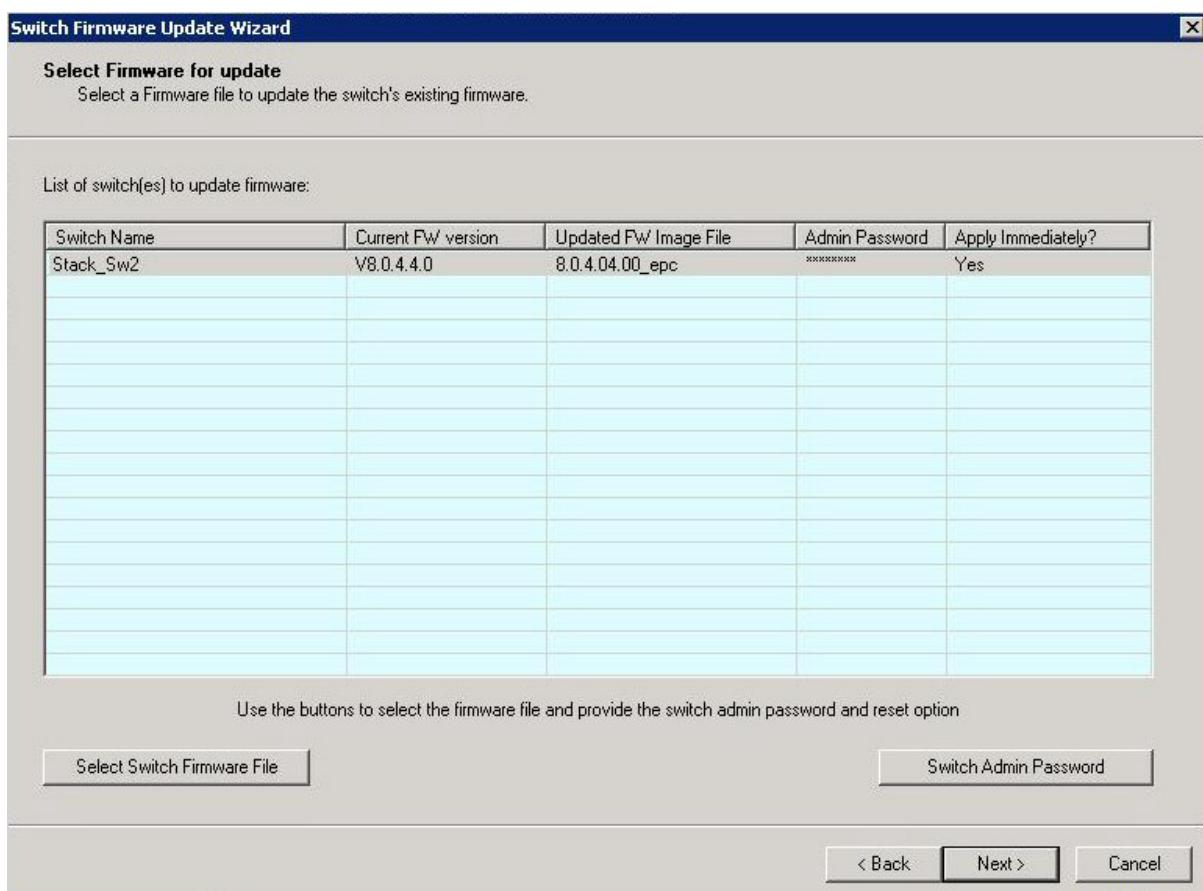

Figure 35 Switch Firmware Update wizard
9. On the completed Switch Firmware Update wizard window (Figure 35), click **Next**.